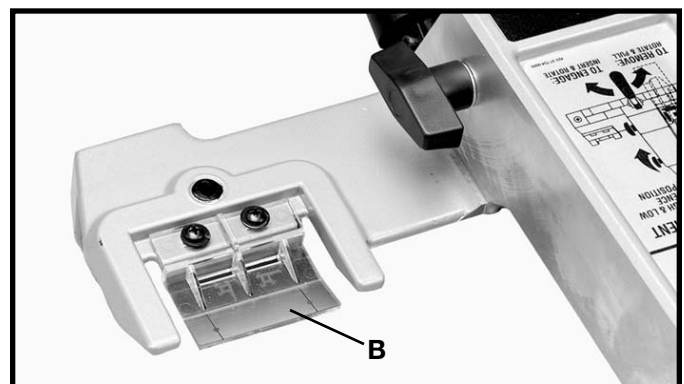

Fig. 65
2. Fig. 65 illustrates the cursor (B) assembled to the Unifence body. The cursor (B) will be adjusted later.